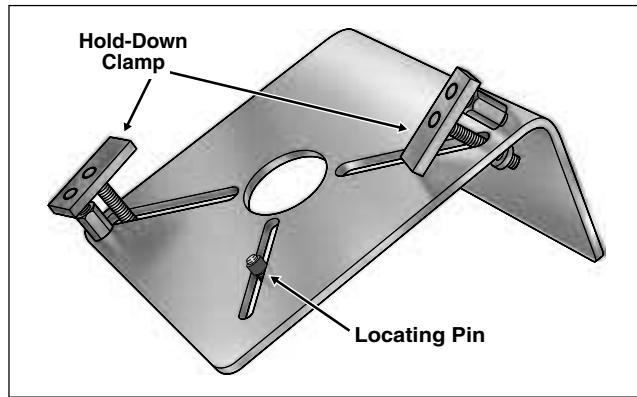

Figure 3-127. Flywheel Fixture (Part No. HD-44358)
- a. Obtain FLYWHEEL SUPPORT FIXTURE (HD-44358). See Figure 3-127. Install brass jaws or shop towels around teeth of vise to prevent damage to tool. Clamp tool in vise with the round hole top-side.